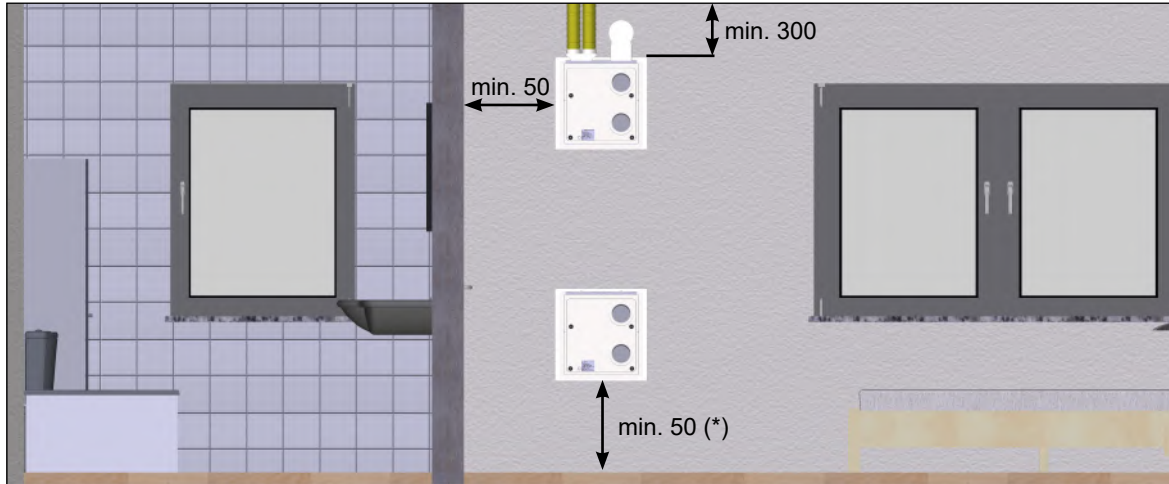
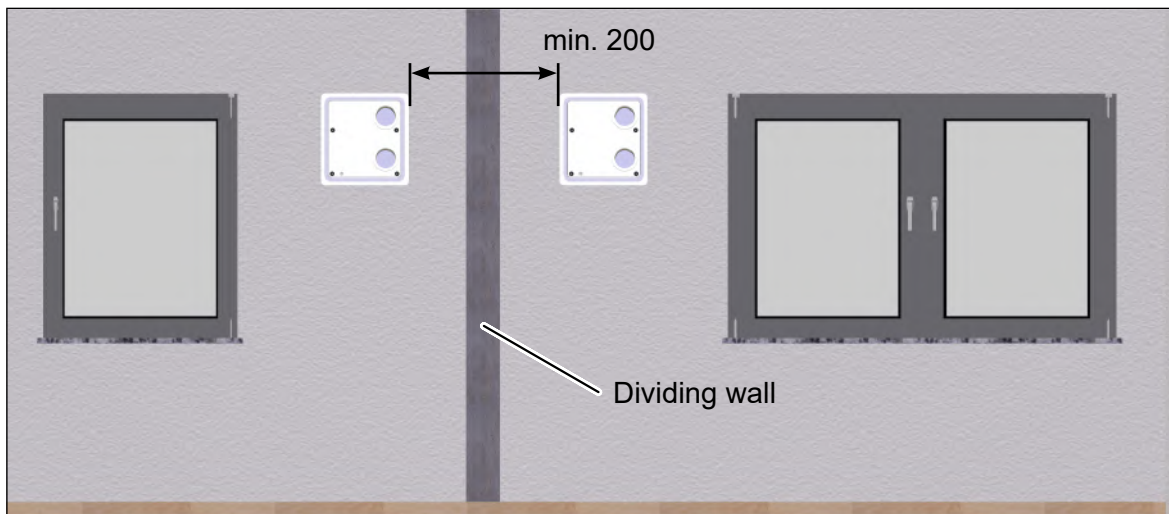

Fig. 4: Minimum distances and options for positioning the M-WRG-M/MB-U2 installation kit, dimensions in millimetres
Fig. 5: Lateral minimum distance between two wall boxes, dimensions in millimetres
- The flush-mount installation kit (wall box) must be installed so that the openings for the flexible pipe / flat ductwork connections always point up (see Fig. 4).
- ▶ Maintain the following minimum distances (see Fig. 4 and Fig. 5):
- The distance between the side and bottom edges of the wall box and adjacent surfaces should be at least 50 mm (exception: if a condensate connection is used, see (\*) in Fig. 4). The ventilation unit will be easier to operate if this minimum distance is maintained. It also allows the air filter to be replaced without obstruction.
- The lateral distance between two wall boxes must not be less than 200 mm to prevent an air short circuit between the ventilation units (see Fig. 5 on page 12).